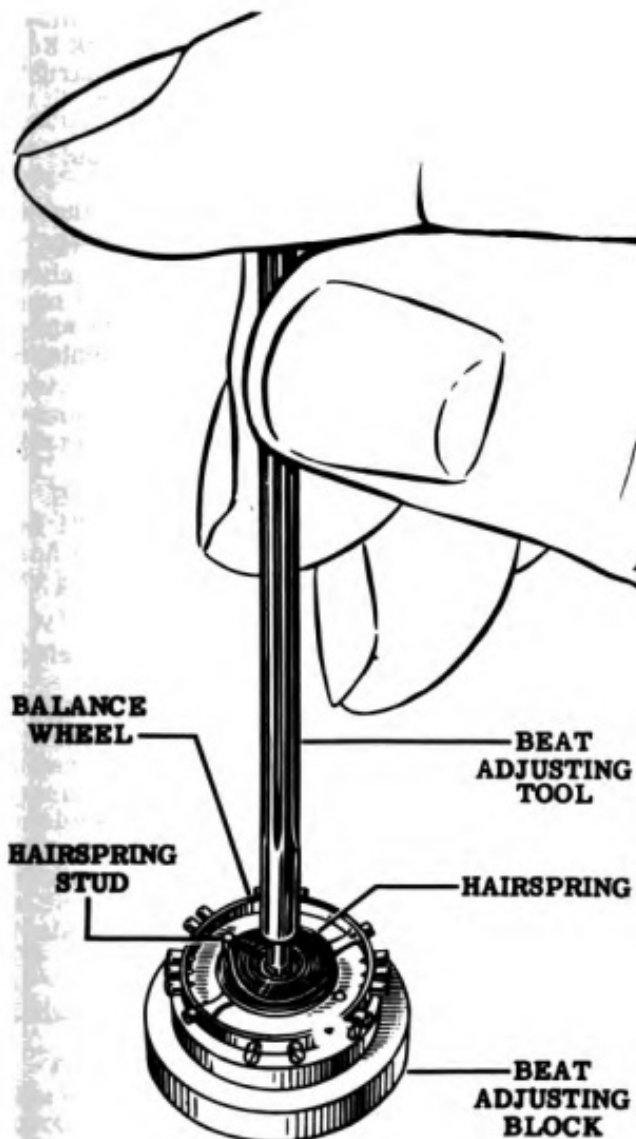

Figure 53
32. Place the balance wheel on the beat adjusting block (Tool No. 22A) and turn the collet with the beat adjusting tool (Tool No. 23A) so that the stud is directly over the right balance arm when the roller jewel is facing toward you. See Fig. 53.